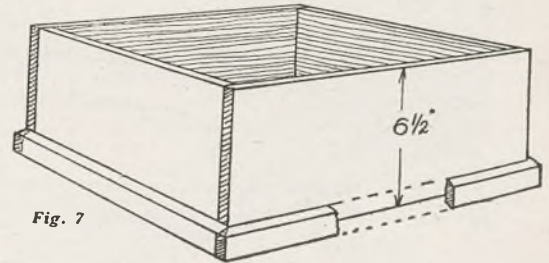

Fig. 7
The lift, Fig. 7 is the same dimensions and
- Fig. 7. The lift.